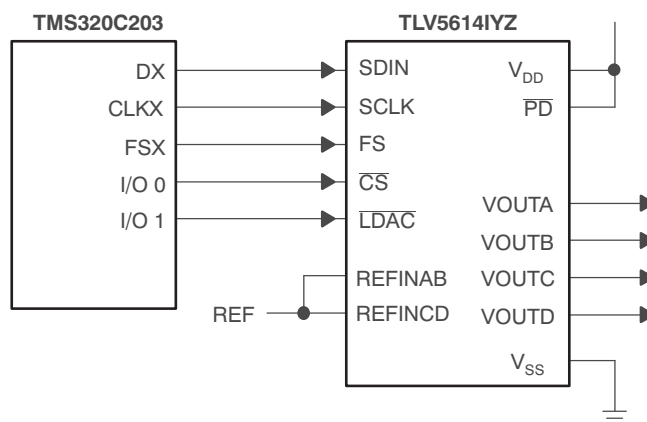

Figure 17. TLV5614IYZ Interfaced With TMS320C203
Figure 17 shows an example of how to connect the TLV5614IYZ to a TMS320C203 DSP. The serial port is configured in burst mode, with FSX generated by the TMS320C203 to provide the frame sync (FS) input to the TLV5614IYZ. Data is transmitted on the DX line, with the serial clock input on the CLKX line. The general-purpose input/output port bits IO0 and IO1 are used to generate the chip select ( $\overline{CS}$ ) and DAC latch update (LDAC) inputs to the TLV5614IYZ. The active low power-down ( $\overline{PD}$ ) is pulled high all the time to ensure the DACs are enabled.